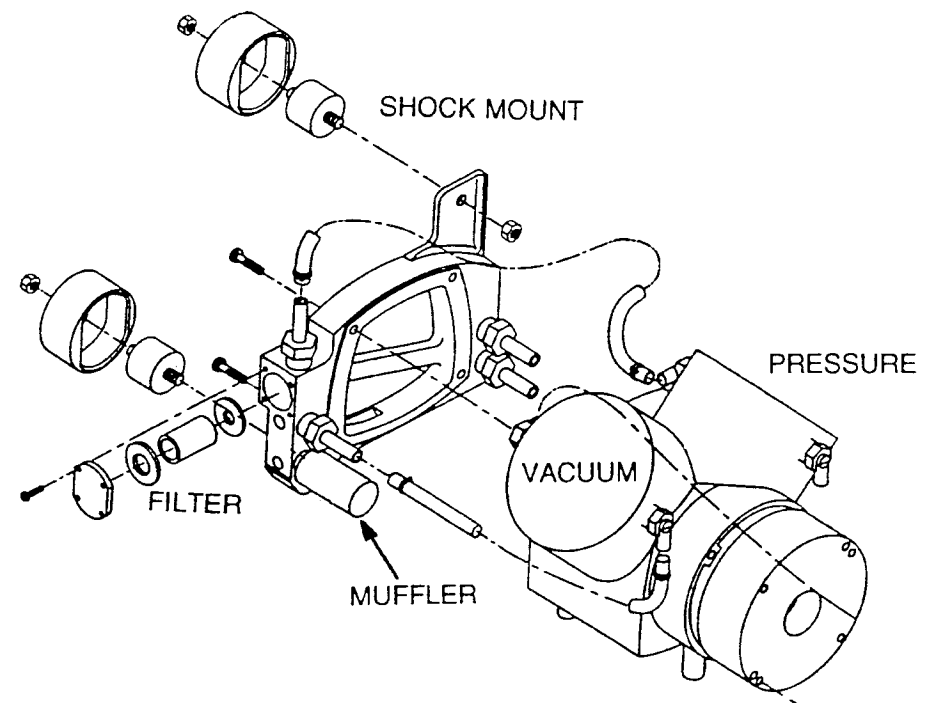

Figure 8-2
2. Refer to figure 8-2. Cut off the hose clamps from the vacuum and pressure heads on the pump assembly. Remove the hoses from the heads.
2. Refer to figure 8-2. Remove the muffler by rotating it counterclockwise.
2. Refer to figure 8-2. Remove the four screws which retain the filter access cover.
3. Refer to figure 8-2. Inspect the four shock mounts for signs of cracking or excessive wear. Replace as necessary.